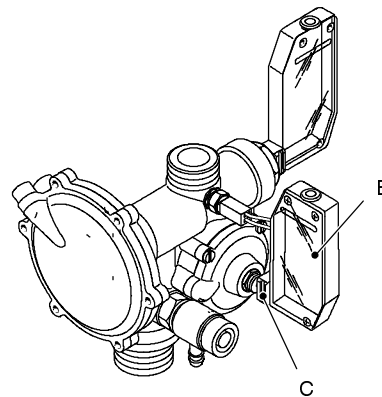

fig. 60
As a consequence of any one of these causes the main circuit flow switch cuts – off an electric circuit by means of a microswitch (B in fig. 60) installed on it.
- 2 Remove the fork C that holds the main circuit flow switch B (fig. 60).
- 2 Remove the fork *E* that holds the main circuit flow switch *B* (fig. 60).
- 2 Remove the fork *C* that holds the switch placed on the valve and remove the switch (fig. 60).